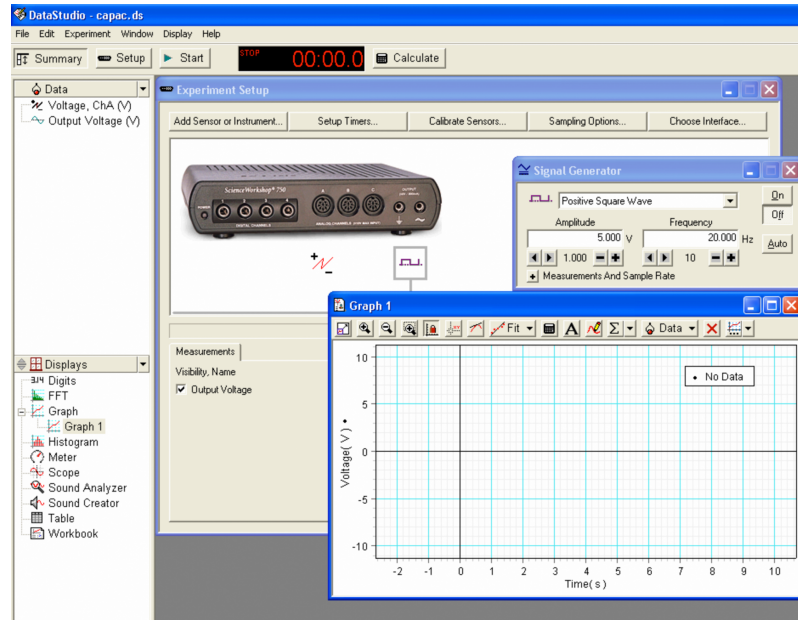

Figure 8: Opening screen of DataStudio file
- 6 Open the DataStudio file associated with this lab, which starts the DataStudio program. A screen similar to Fig. 8 is displayed.